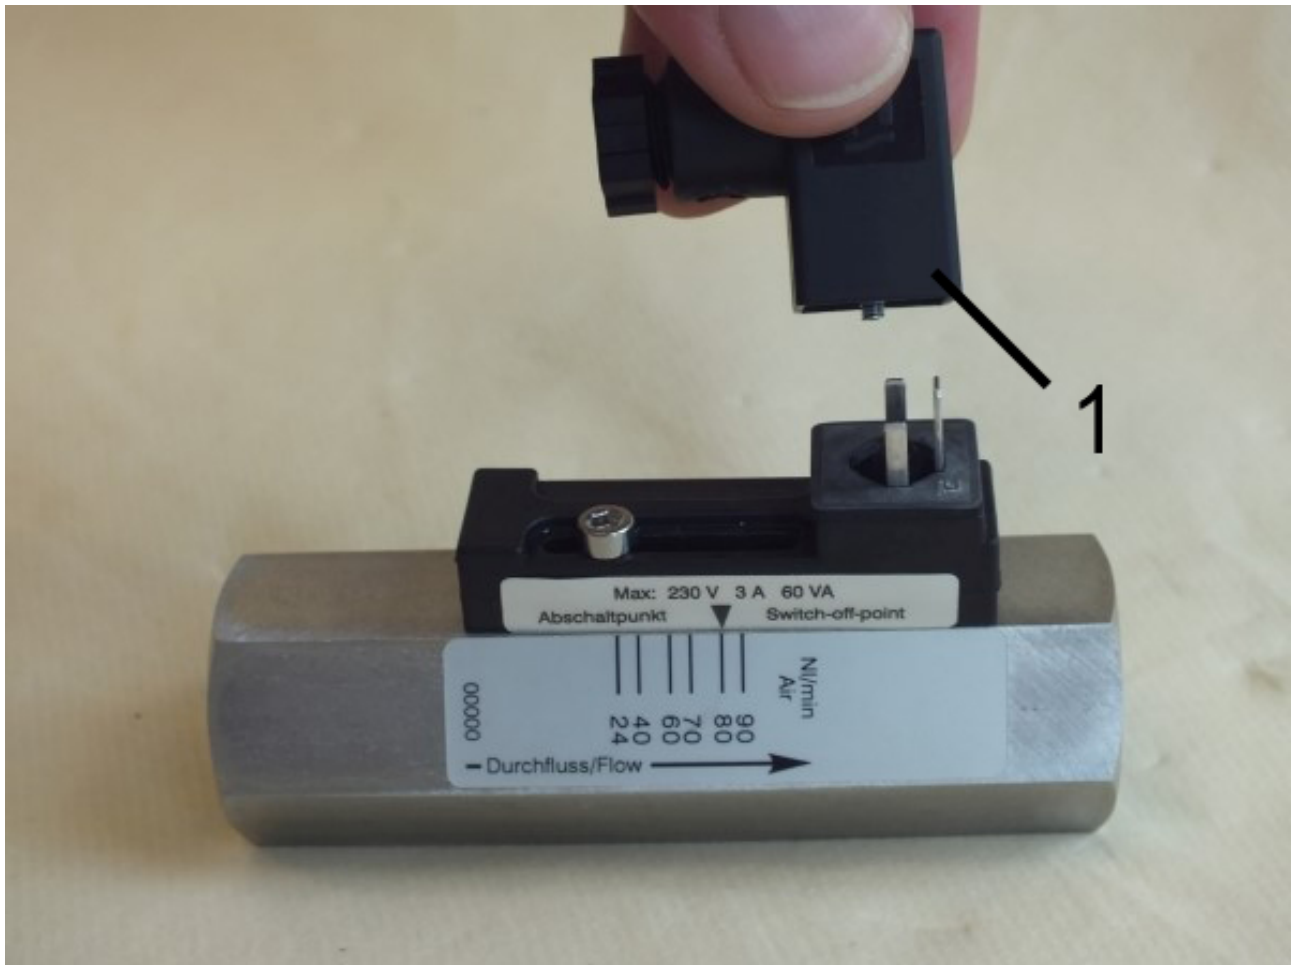

Fig. 45: Remove female socket
2. ➤ Remove the female socket and gasket (Fig. 45/1) by pulling upwards.